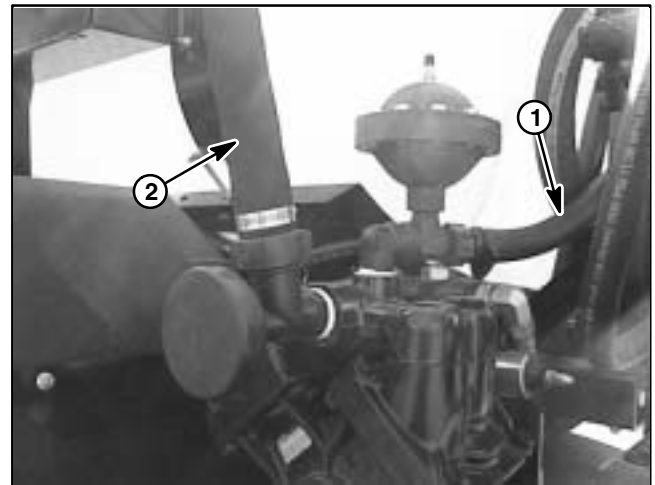
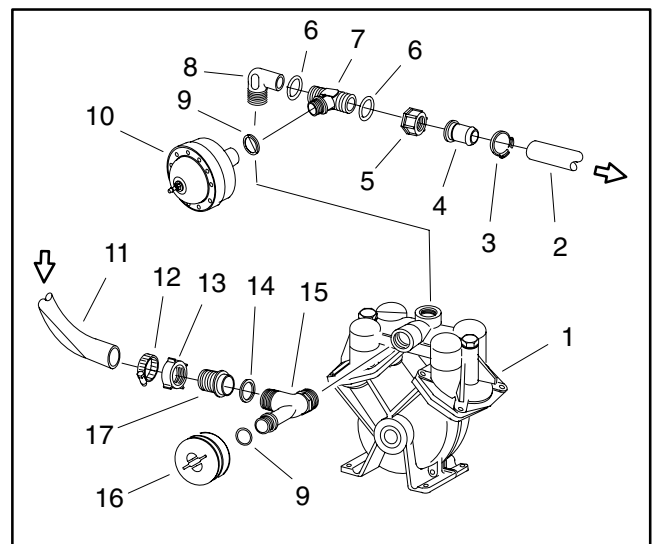

Figure 6
Figure 7
2. Loosen hose clamp that secures suction hose to hose barb (Fig. 6). Pull suction hose from hose barb.
3. Loosen hose clamp that secures pressure hose to hose barb (Fig. 6). Pull pressure hose from hose barb.
4. Remove flange head screw and flange nut that secure front and rear guard plate. Remove four (4) flange nuts that retain guard plates to pump mount bracket. Remove guard plates from machine.
6. Remove four (4) flange head screws and flange nuts that secure pump to pump mount bracket.
9. If needed, remove pressure dampener, tee fitting (pressure), and elbow fitting (pressure) from pump outlet (Fig. 7).
10. If needed, remove suction dampener and tee fitting (suction) from pump inlet (Fig. 7).
2. If removed, install tee fitting (suction) and suction dampener to pump inlet. Orientate tee toward rear of machine (Fig. 7).
3. If removed, install elbow fitting (pressure), tee fitting (pressure), and pressure dampener to pump outlet. Orientate elbow toward rear of machine (Fig. 7).
10. Install pressure and suction hoses to correct barb fittings (Fig. 6). Secure hoses with hose clamps.